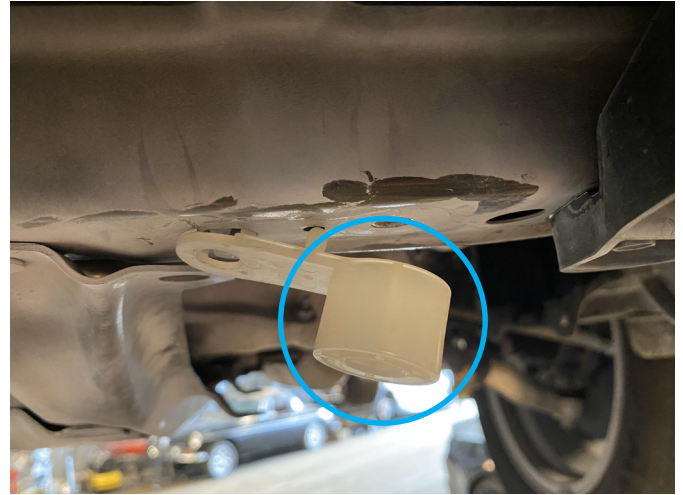

Fig.2
2. Remove the plastic plug as shown in Fig. 2.